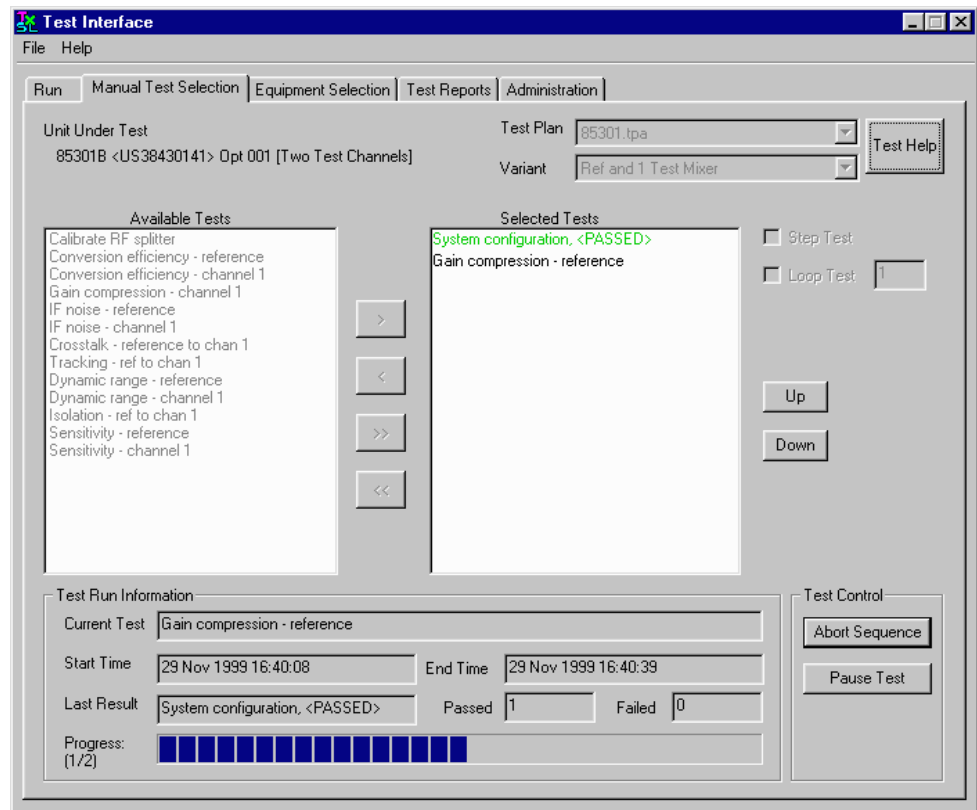

Figure 31 Manual Test Selection Tab
1. Click the **Manual Test Selection** tab. See Figure 31.